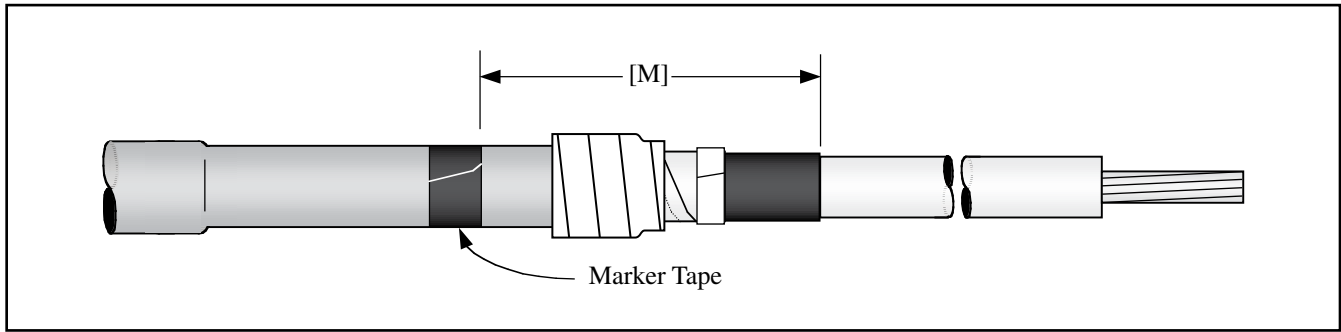

Figure 21
5.4 Place a termination installation marker tape at position [M] (Figure 21).